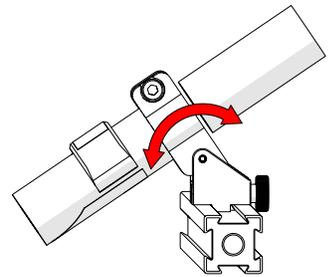

Fig. 196 - Aim guide
3. Adjust the optical guide's friction pivot aiming the beam at the inspection surface (Fig. 196).